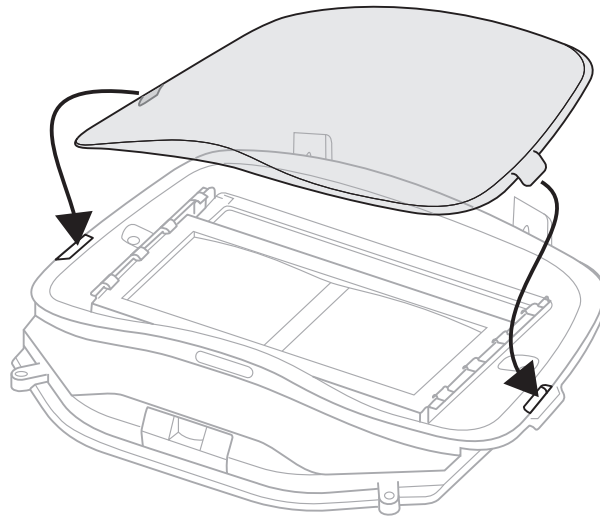

Fig. 27c
- Reattach the ADF outer protection plate to hold the lens assembly in place and place the ADF back in the outer welding shield (see “Inspection & Maintenance”, #5d “Welding Filter”) (Fig. 27c).